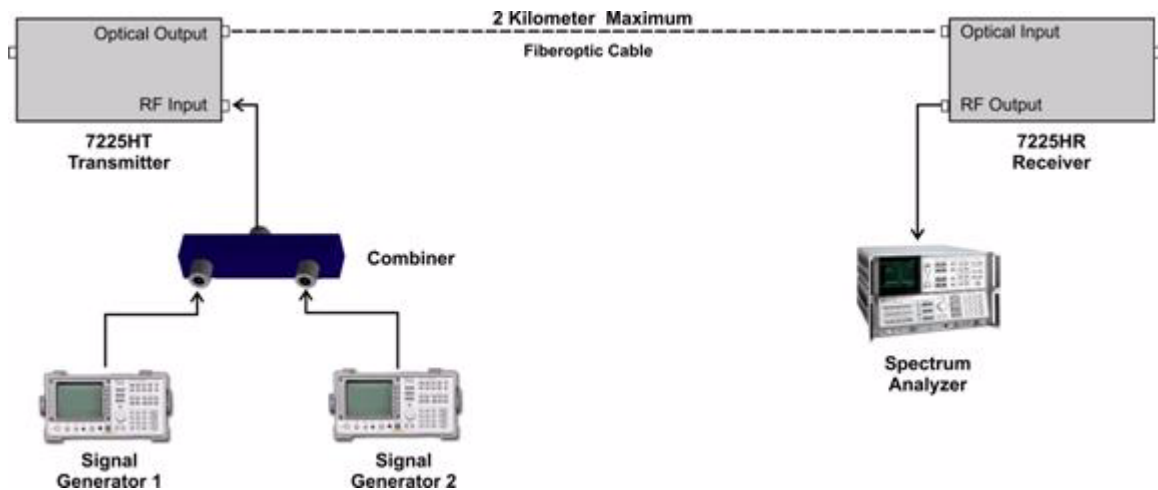

Figure 12 Fiber Optic Alignment Setup
4. Set up the system as shown in **Figure 12 Fiber Optic Alignment Setup**